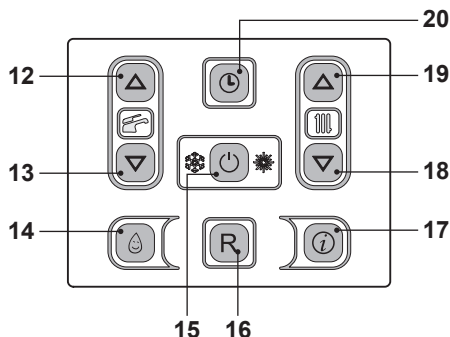
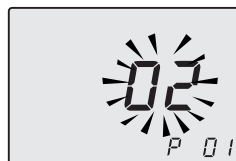

Fig. 10.1
Fig. 10.2
- Enter in "programming mode" by sequentially pressing keys 15 - 18 - 19 together for 10 seconds (Fig. 10.1) until the LCD display indicates the letters **P01**, indicating entry in "parameter 01" (Fig. 10.2).
- By pressing key 15 (Fig. 10.1) confirmation of the inserted value is obtained.